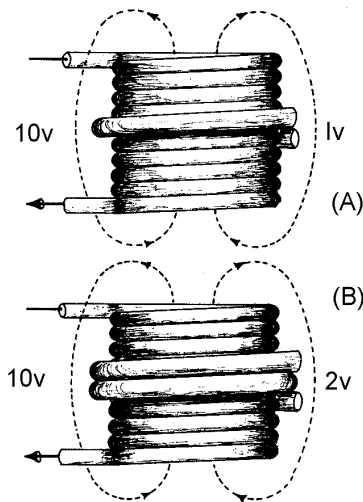

Figure 5-10.—Transformer turns and voltage ratios.
The total voltage induced into the secondary winding of a transformer is determined mainly by the RATIO of the number of turns in the primary to the number of turns in the secondary, and by the amount of voltage applied to the primary. Refer to figure 5-10. Part (A) of the figure shows a transformer whose primary consists of ten turns of wire and whose secondary consists of a single turn of wire. You know that as lines of flux generated by the primary expand and collapse, they cut BOTH the ten turns of the primary and the single turn of the secondary. Since the length of the wire in the secondary is approximately the same as the length of the wire in each turn in the primary, EMF INDUCED INTO THE SECONDARY WILL BE THE SAME AS THE EMF INDUCED INTO EACH TURN IN THE PRIMARY. This means that if the voltage applied to the primary winding is 10 volts, the counter emf in the primary is almost 10 volts. Thus, each turn in the primary will have an induced counter emf of approximately one-tenth of the total applied voltage, or one volt. Since the same flux lines cut the turns in both the secondary and the primary, each turn will have an emf of one volt induced into it. The transformer in part (A) of figure 5-10 has only one turn in the secondary, thus, the emf across the secondary is one volt.
The transformer represented in part (B) of figure 5-10 has a ten-turn primary and a two-turn secondary. Since the flux induces one volt per turn, the total voltage across the secondary is two volts. Notice that the volts per turn are the same for both primary and secondary windings. Since the counter emf in the primary is equal (or almost) to the applied voltage, a proportion may be set up to express the value of the voltage induced in terms of the voltage applied to the primary and the number of turns in each winding. This proportion also shows the relationship between the number of turns in each winding and the voltage across each winding. This proportion is expressed by the equation: